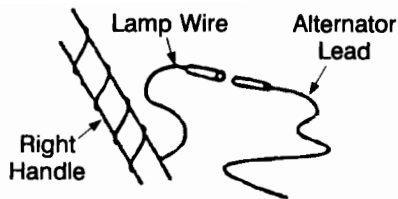

FIGURE 19
- If so equipped, wrap the wire from the lamp down the right handle until the wire can be plugged into the alternator lead wire located under the fuel tank. See Figure 19. Lamp wire must not interfere with any controls or cables.